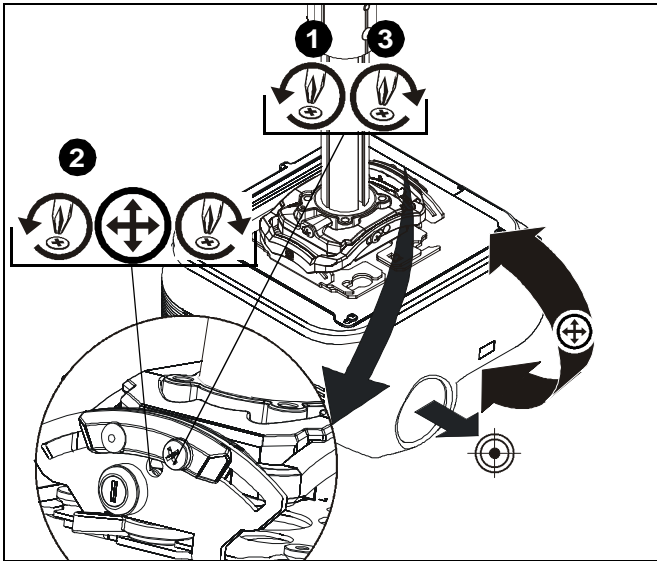

Figure 7
1. Loosen PITCH adjustment locking screw using a #2 Phillips screwdriver. (See Figure 7)
2. Turn PITCH micro-adjustment screw right or left using a #2 Phillips screwdriver until image is properly aligned on target. (See Figure 7)
3. Tighten PITCH adjustment locking screw using a #2 Phillips screwdriver. (See Figure 7)